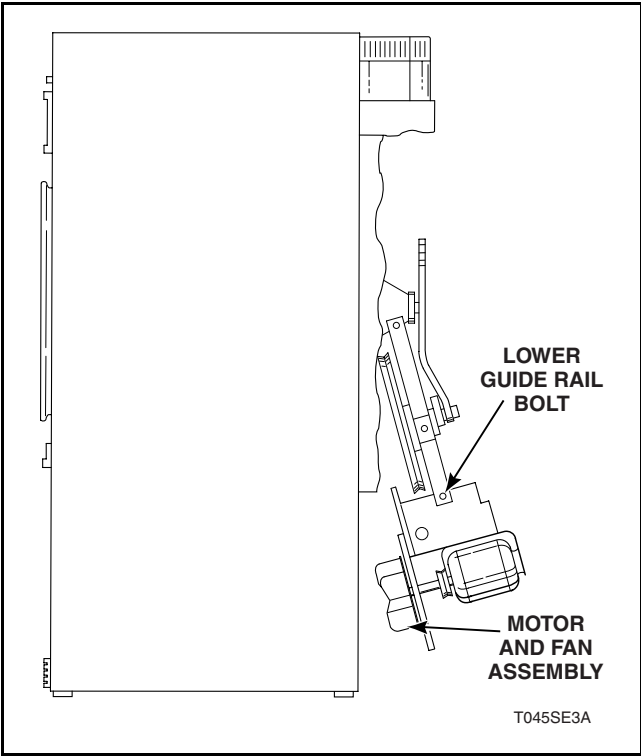

Figure 46
**NOTE:** After removing belt, replace the lower guide rail bolt. Refer to *Figure 46*.
- j. Using the guide rails as supports, swing motor and fan assembly out and away from rear of tumbler. Refer to *Figure 46*.